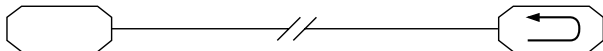

Figure 4-2. Remote digital loopback (REM).
V.54 Loop 2 (REM, remote digital loopback) tests the local SFOM-HS2, the line, and the remote SFOM-HS2 (see **Figure 4-2** below).